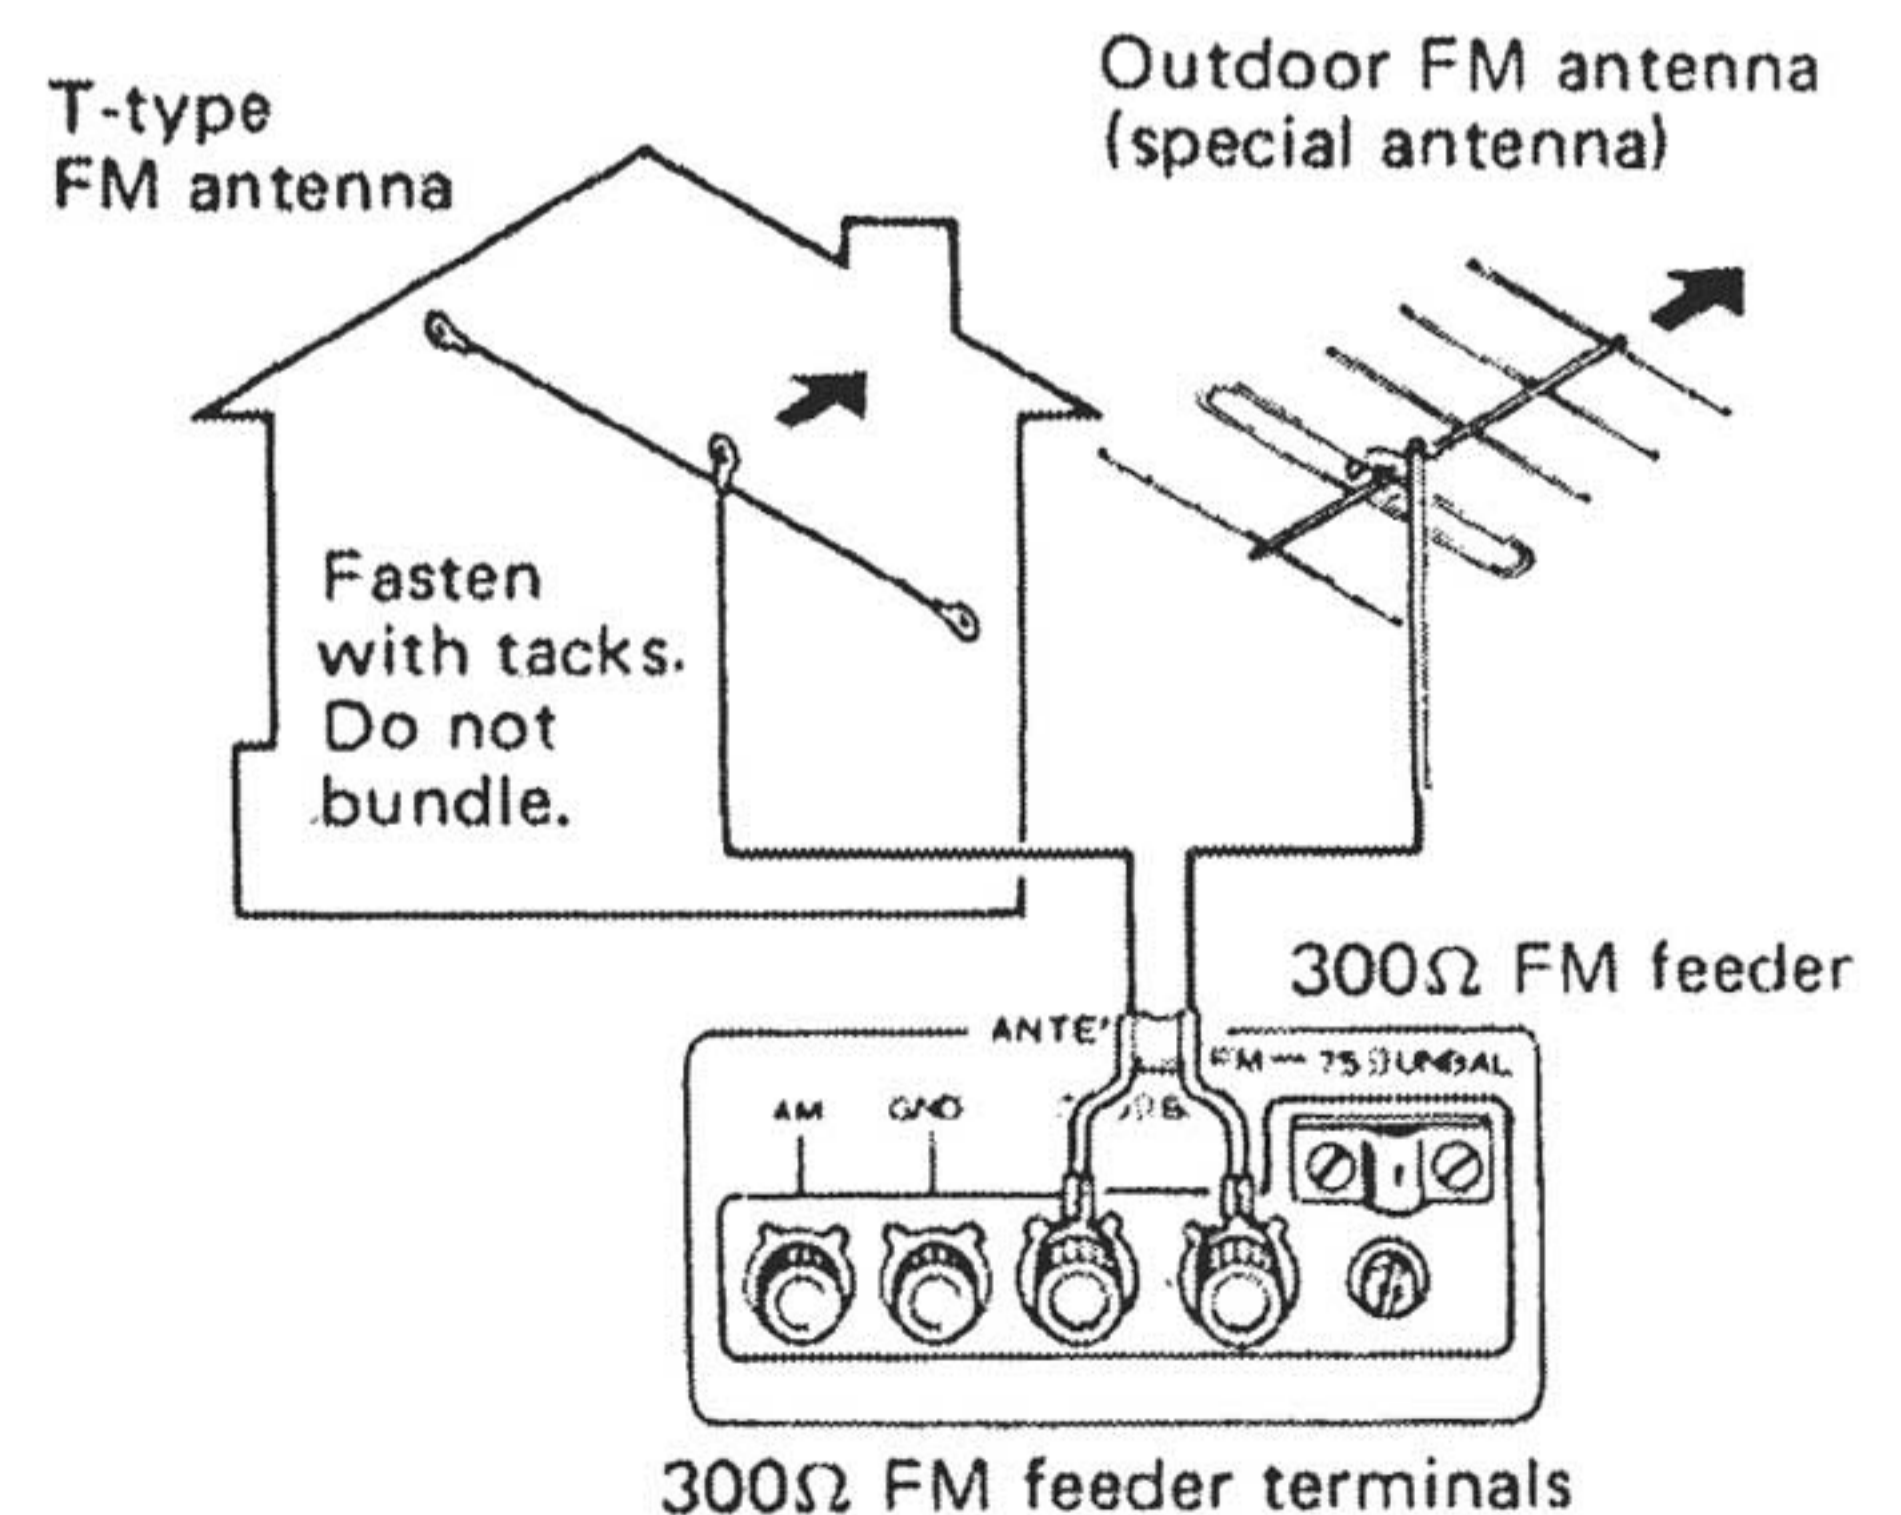

Fig. 3
- According to type of antenna, employ 300ohm feeder or 75ohm coaxial cable for connection. **300ohm feeder:** This is suitable in locations where external noise is not a problem and if the distance between the antenna and the TX-9500II is short. Connect to the 300ohm BAL terminals as shown in Fig. 3.
The accessory T type FM antenna can be employed in locations where FM signals are strong, such as those near transmitting stations or within wooden structures. As shown in Fig. 3, connect the T type FM antenna to the 300ohm BAL terminals. While listening to FM stations, open the antenna to a T shape, rotate it 180° to determine where the best reception is obtained, then attach it to a wall or ceiling.